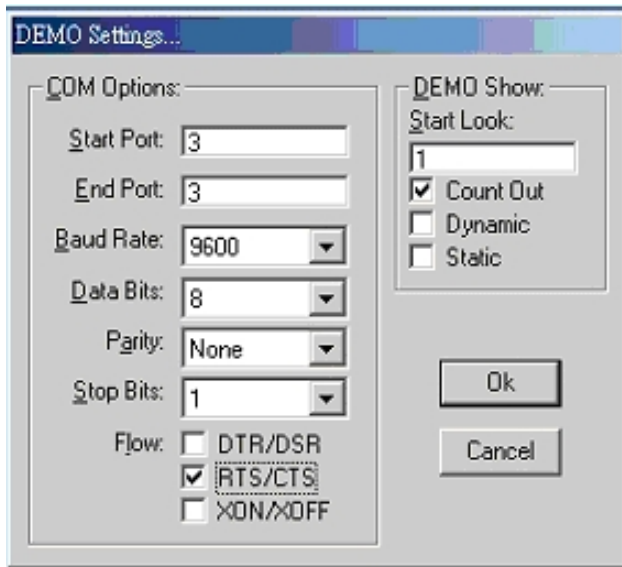

Fig.7
**Step3.**Click the “Setting” to set the RS232 loop counter (See the Figure 7); your system will detect COM3.